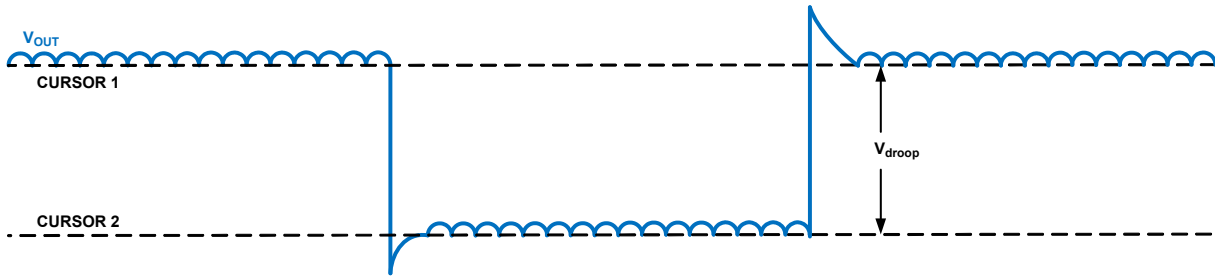

FIGURE 1.  $V_{DROOP}$  ADJUSTMENT
6. Using a VRTT, load the part with a transient from 1A to  $I_{CCmax}$  at a 300Hz rep rate, and monitor  $V_{OUT}$  on the scope. Set the time base on the scope so that one full cycle is visible. Position the cursors on the scope as shown in Figure 1 on page 3 and adjust  $R_{droop}$  in 1% increments until  $V_{droop}$  is dialed into spec.